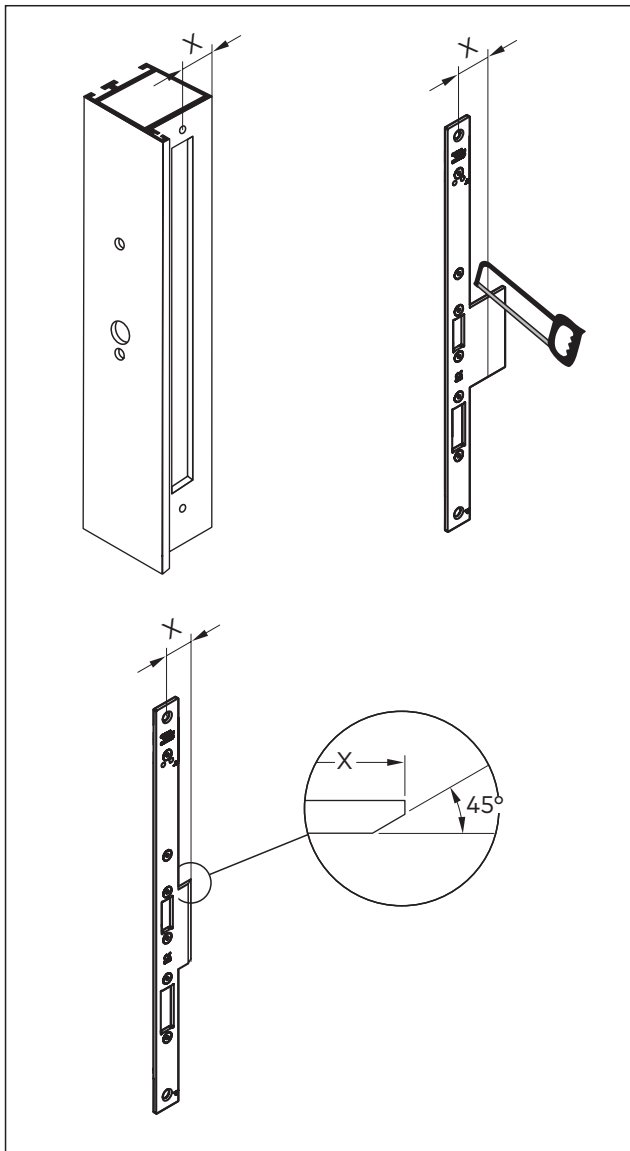

Fig. 30 Dimensions of the adjustments
1. Adjust the forend (Abb. 30).